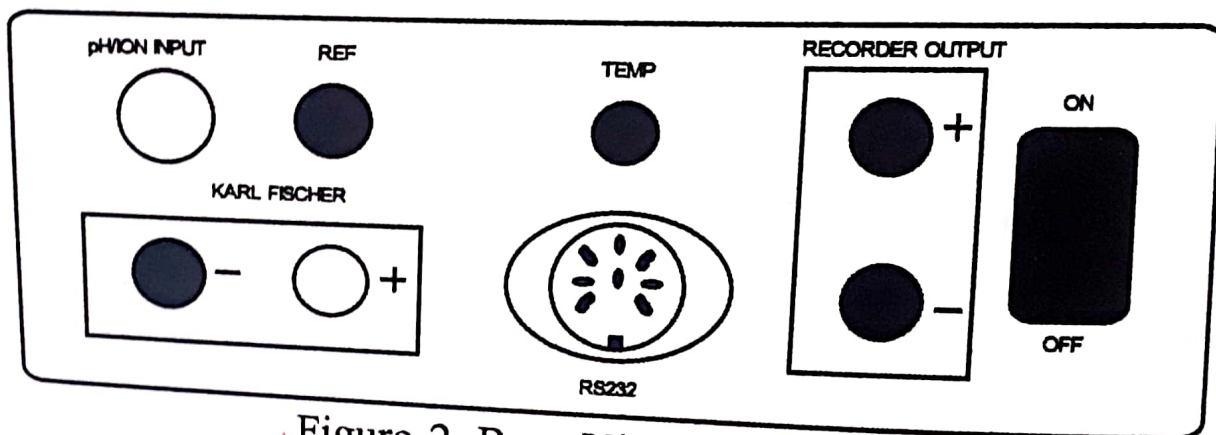

Figure 2. Rear View of RE357Tx
- Ensure that the shorting plug is connected to the BNC pH input at the back of the meter and that the temperature probe is removed. (see Figure 2)